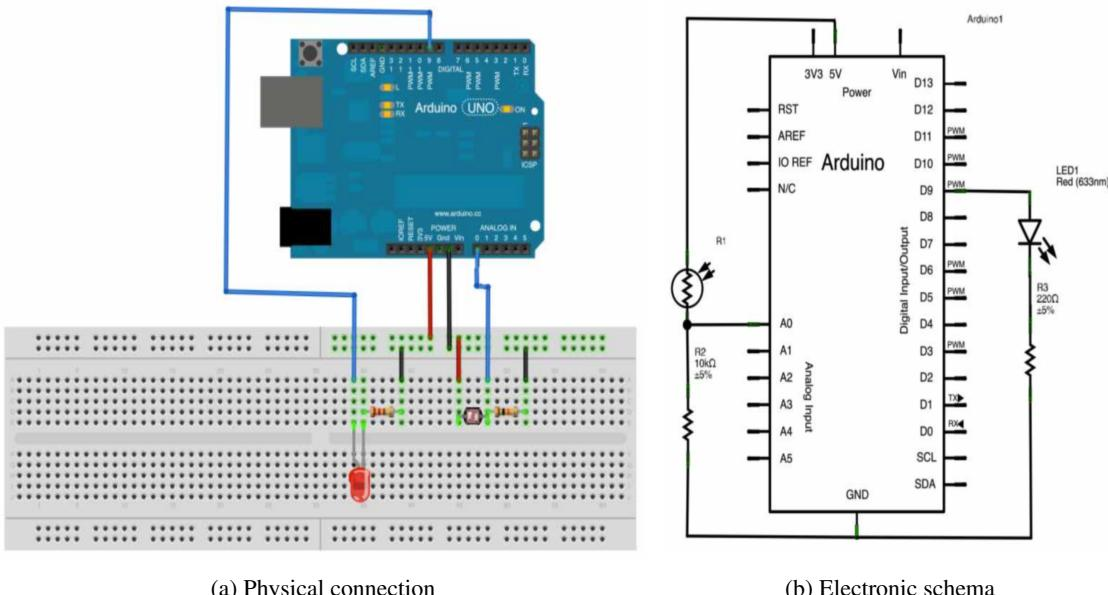

Figure 7: Physical connection (on the left) and electronic schema (on the right) for laboratory 1 (part 2))
- To design the interconnection scheme of the circuit that controls the state of the LED by analogically writing the value provided from the LDR sensor. To do this, from the Blink scheme, you should connect the LDR as shown in Figure 7, which shows the connection between the breadboard and Arduino platform (on the left) and the interconnection scheme (on the right).
- Record a video showing a few seconds of the operation of the circuit described in part 2 of this laboratory (Figure 7).